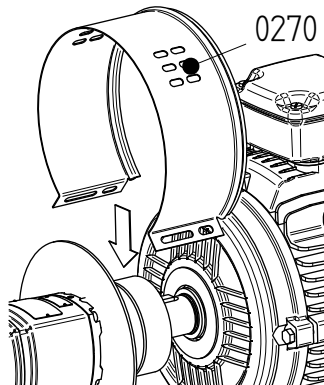

Figure 8: Fitting the jacket at motor side.
- 2 Remove both jackets (0270). See figure 8.